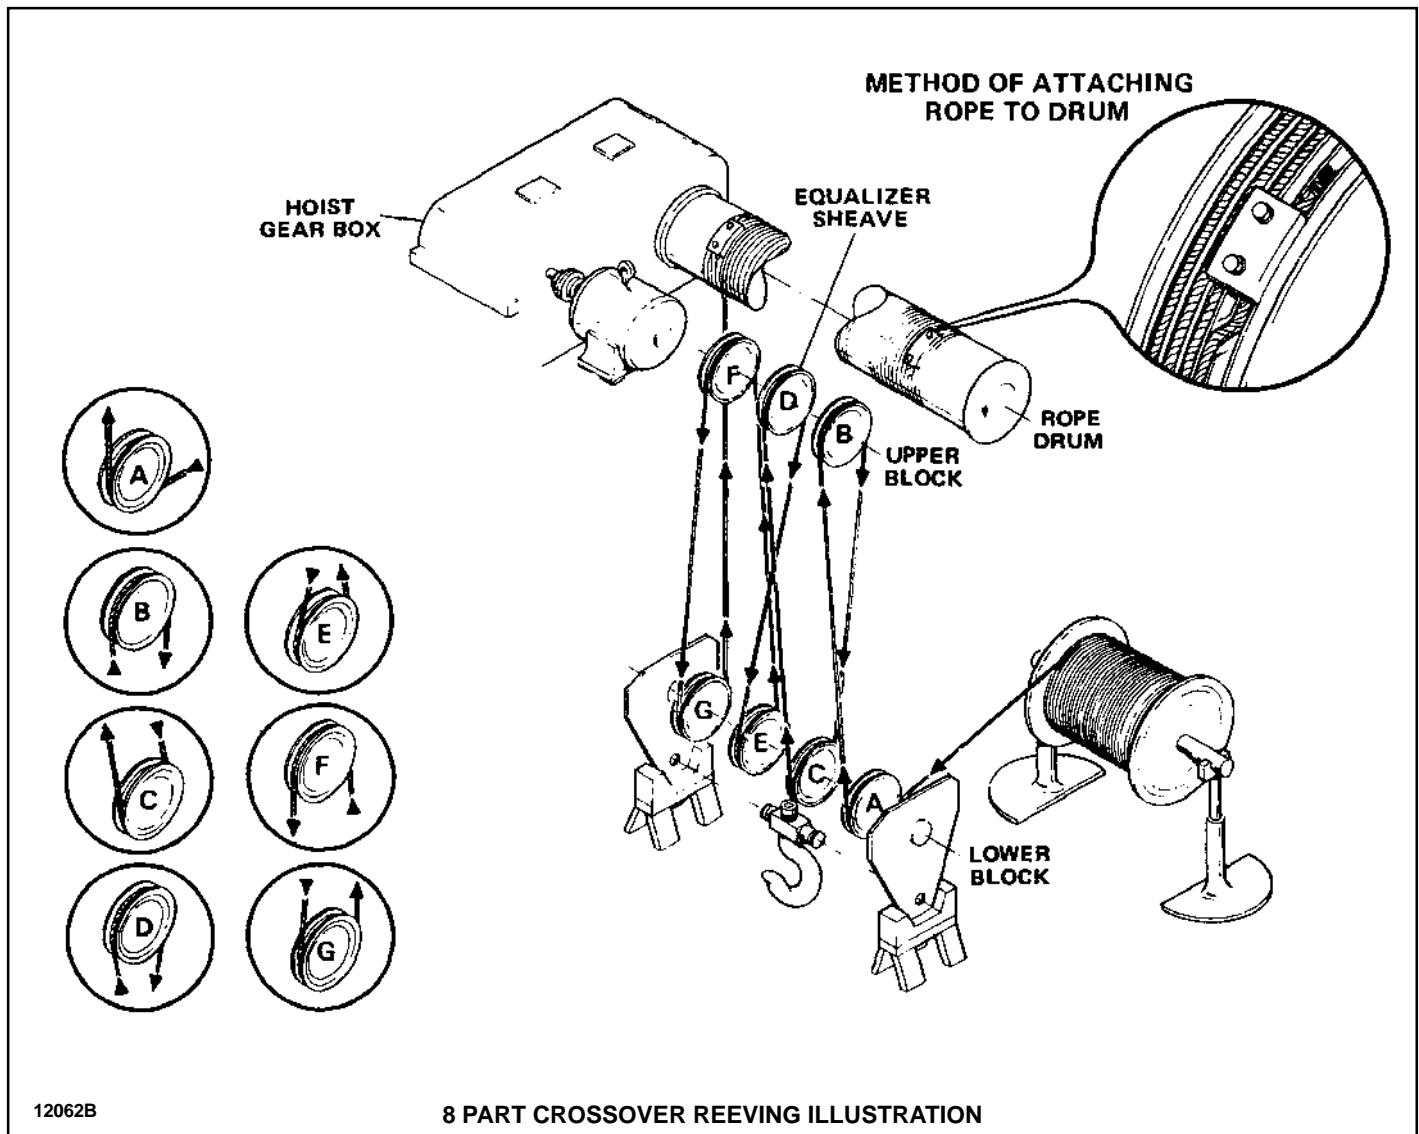

Figure 2-2. Crossover Reeving
e. The following reeving instructions are based upon 4 part double crossover reeving. Figure 2-2 illustrates CROSSOVER reeving. As shown in the Figure, provide a support stand for the lower block, and position block directly under the trolley. Provide a support for the reel, positioned as shown, which will allow reel to turn freely. (If rope is furnished in a coil, provide similar support to allow coil to rotate as rope is removed.)
f. As shown in Figure 2-2, thread free end of rope through lead (drum) side of the outside sheave of the lower block. From there pull rope up to the upper block sheave. Pass free end of rope over upper sheave and then down and under the inside sheave in the lower block. Continue to pull the rope back up the upper block and pass over the equalizer sheave. (Note that rope goes from back side of the equalizer sheave to front side of sheave in lower block). Now pull rope down from the equalizer and pass under the inside lower block sheave, and back up to the upper block sheave. Pass the rope over the top of upper sheave, back down and under the outside sheave of the lower block, and then up to the drum. Anchor rope as shown in Figure 2-2, spin off remaining rope on the reel, and bring free end of rope to the drum and anchor..